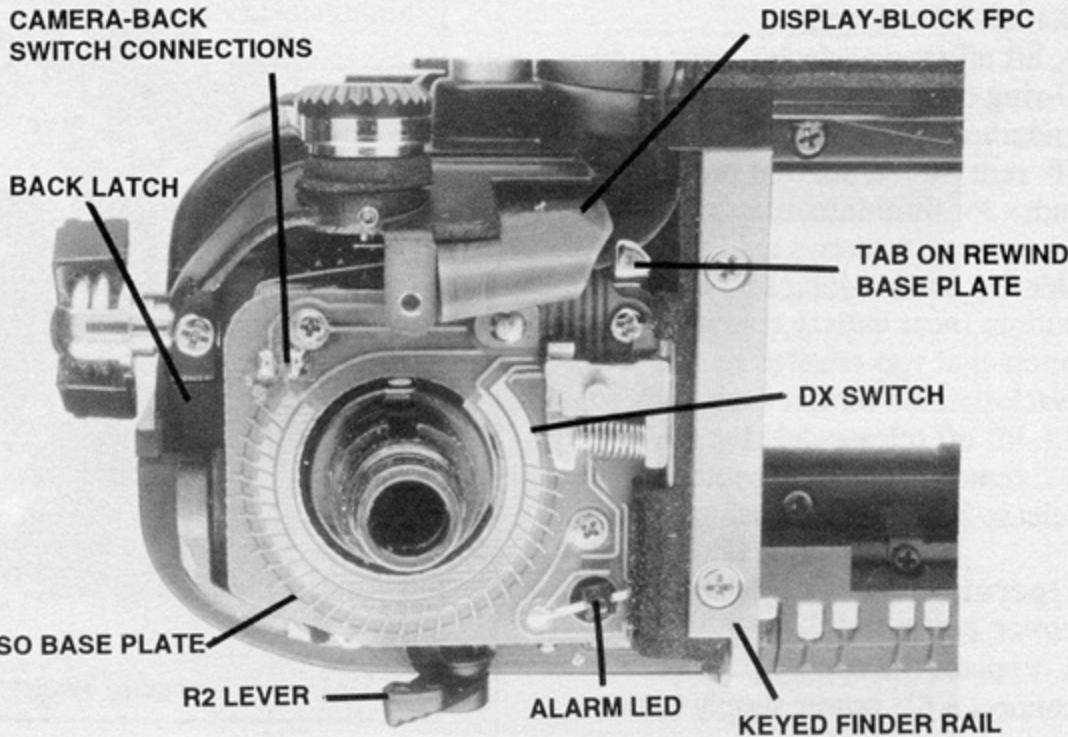

FIG. 8 REWIND-SIDE TOP COVER REMOVED
1. Open the camera back by pulling up the back latch, Fig. 8.
12. remove finder rail, rewind end, Fig. 8 (2 screws)
20. free display-block FPC from under silver-colored tab on rewind base plate, Fig. 8